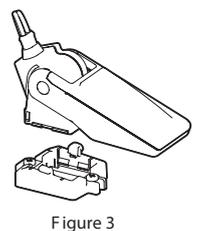

Figure 3
2. Unclip the switch base and attach the base to the surface using suitable stainless-steel screws. Re-clip the switch into the base (Figure 3).